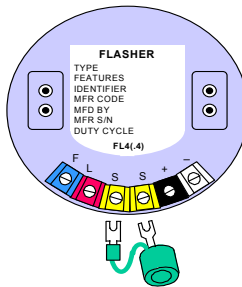

Figure 4-8
- e. Install the proper daylight control (if necessary) to the two yellow “S” terminals on the flasher. The daylight control housing should go next to the “+” terminal, as shown in Figure 4-8.